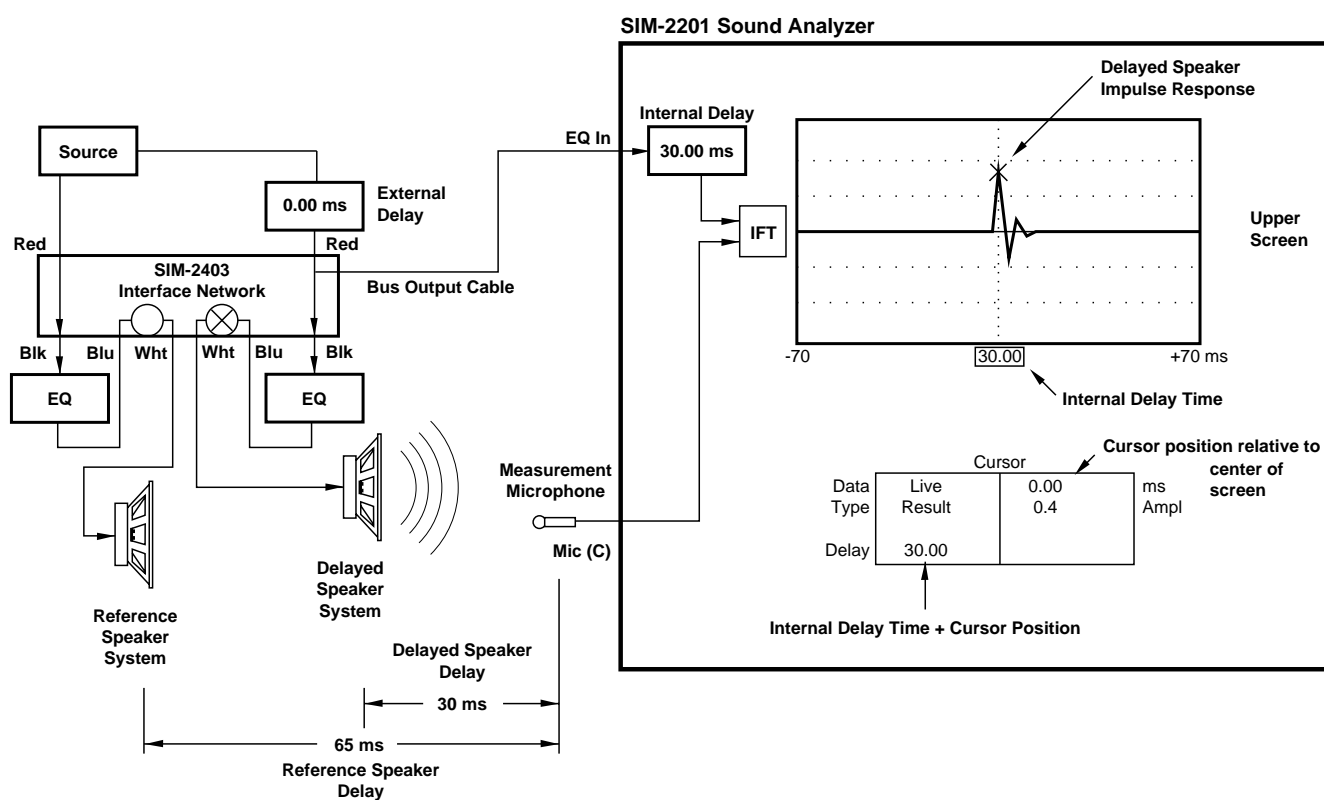

Figure 47b — Before Setting External Delay. Press F3 to Autoselect Internal Delay Time.
- 4) Set the Internal Delay Time for the Delay Branch to compensate for the propagation delay between the Delay speaker and the microphone by using **F3**. The display should appear as shown in Figure 47b.